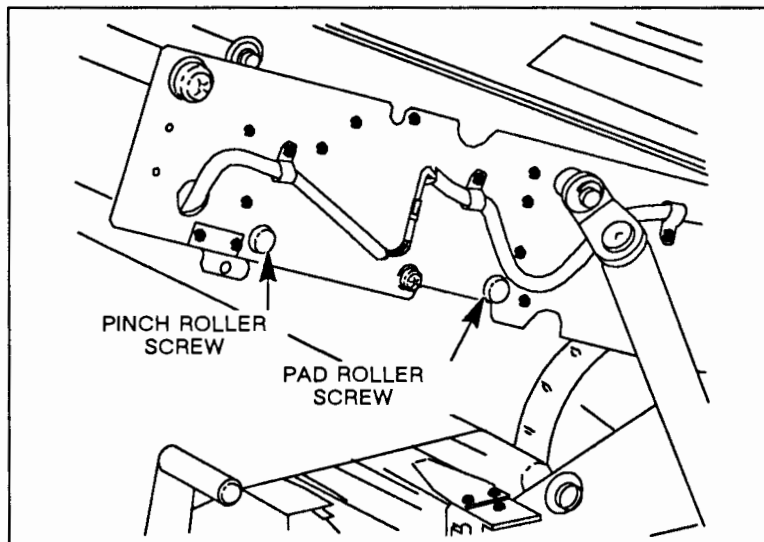

Figure 2-4. Pinch Roller and Pad Roller Restraining Screws (Right Side)
- h. See Figure 2-4. Push up on one end of the pinch roller and remove the plastic-capped, restraining screw located behind the pinch roller and just beneath the roller tension bar. Then push up on the end of the pad roller and remove the plastic-capped, restraining screw from behind the pad roller.